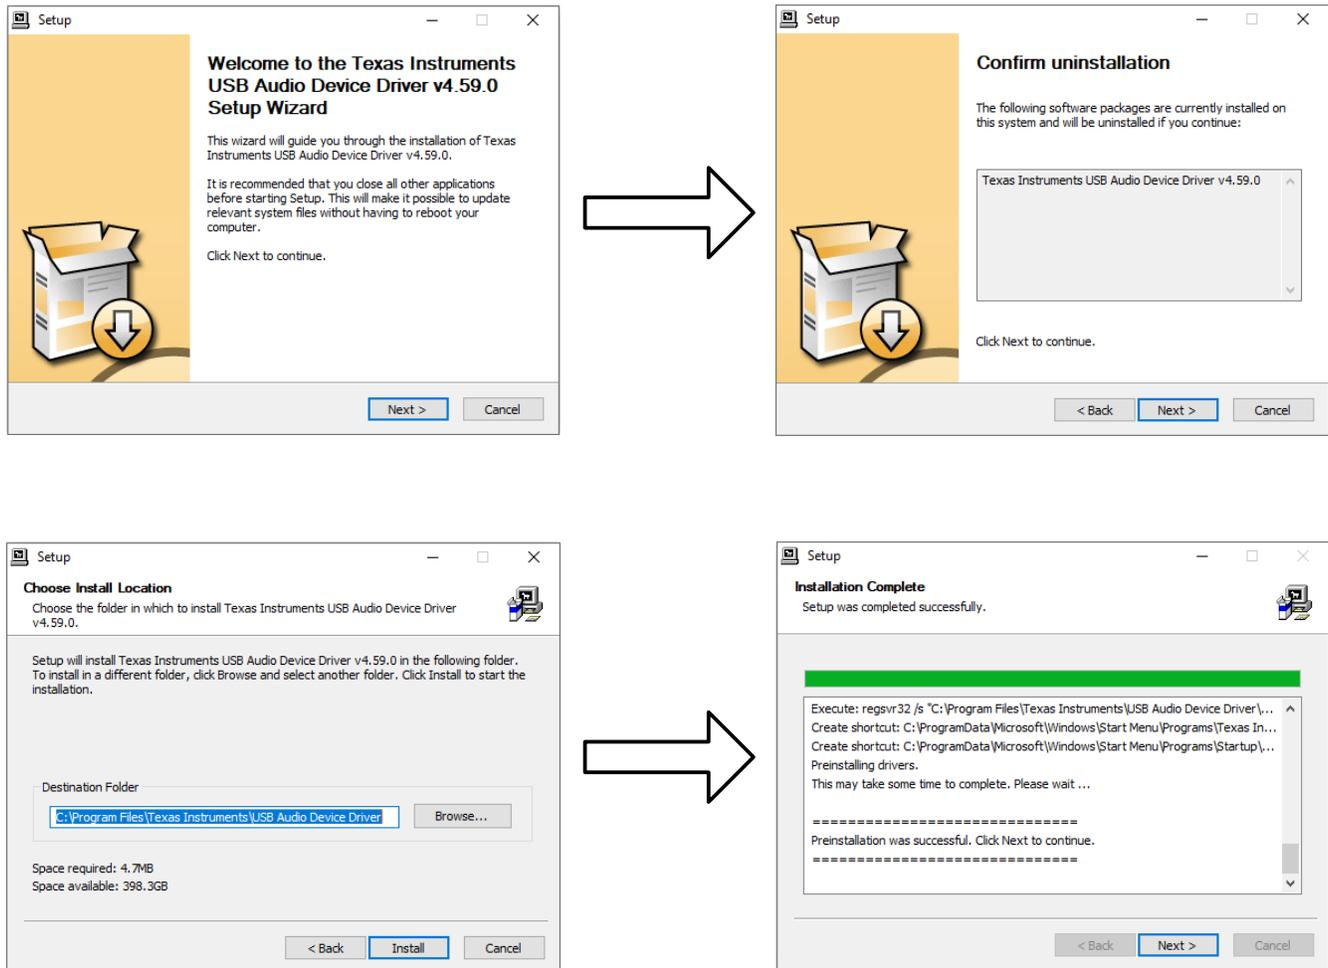

Figure 1-10. USB AUDIO Device Driver Setup
- The AC MODEVM USB audio device driver setup now begins. Follow the prompts by confirming the installation and choosing the installation location. Click *Install* when ready. When the installation is complete, click *Next*. Figure 1-10 shows this process.